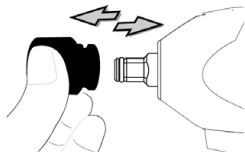

Fig. 4
1. To install the socket, push the socket into the driving spindle as far as it will go. (See Fig. 4)